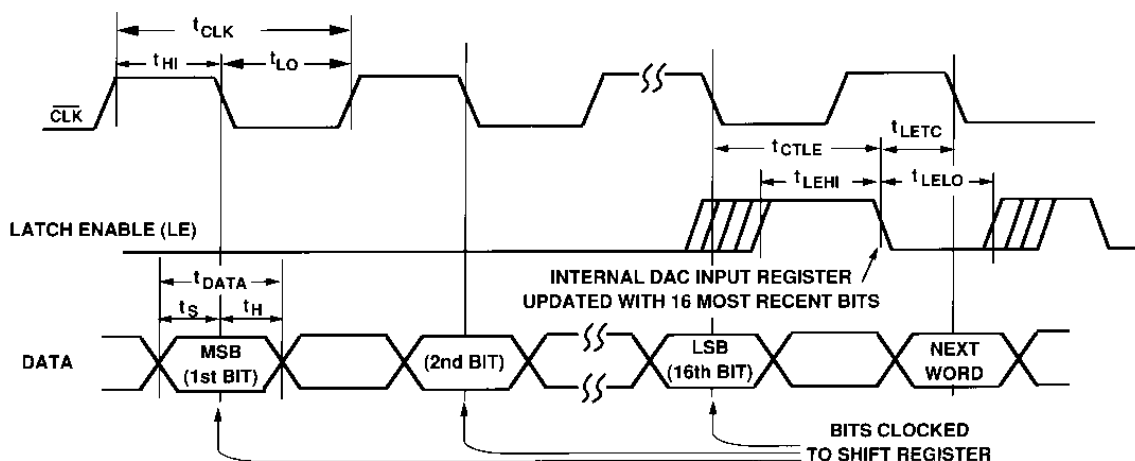

Figure 2. AD766 Serial Input Timing
Serial input data is clocked into the AD766's shift register by the falling edge of $\overline{\text{CLK}}$. Data is presumed to be in two's complement format with MSB (i.e., the sign bit) clocked in first. The shift register converts the most recently clocked-in 16 bits to a parallel word. The falling edge of the latch enable (LE) signal causes the most recent parallel word to be transferred to the internal DAC input latch. See Figure 2 for detailed serial port timing requirements.